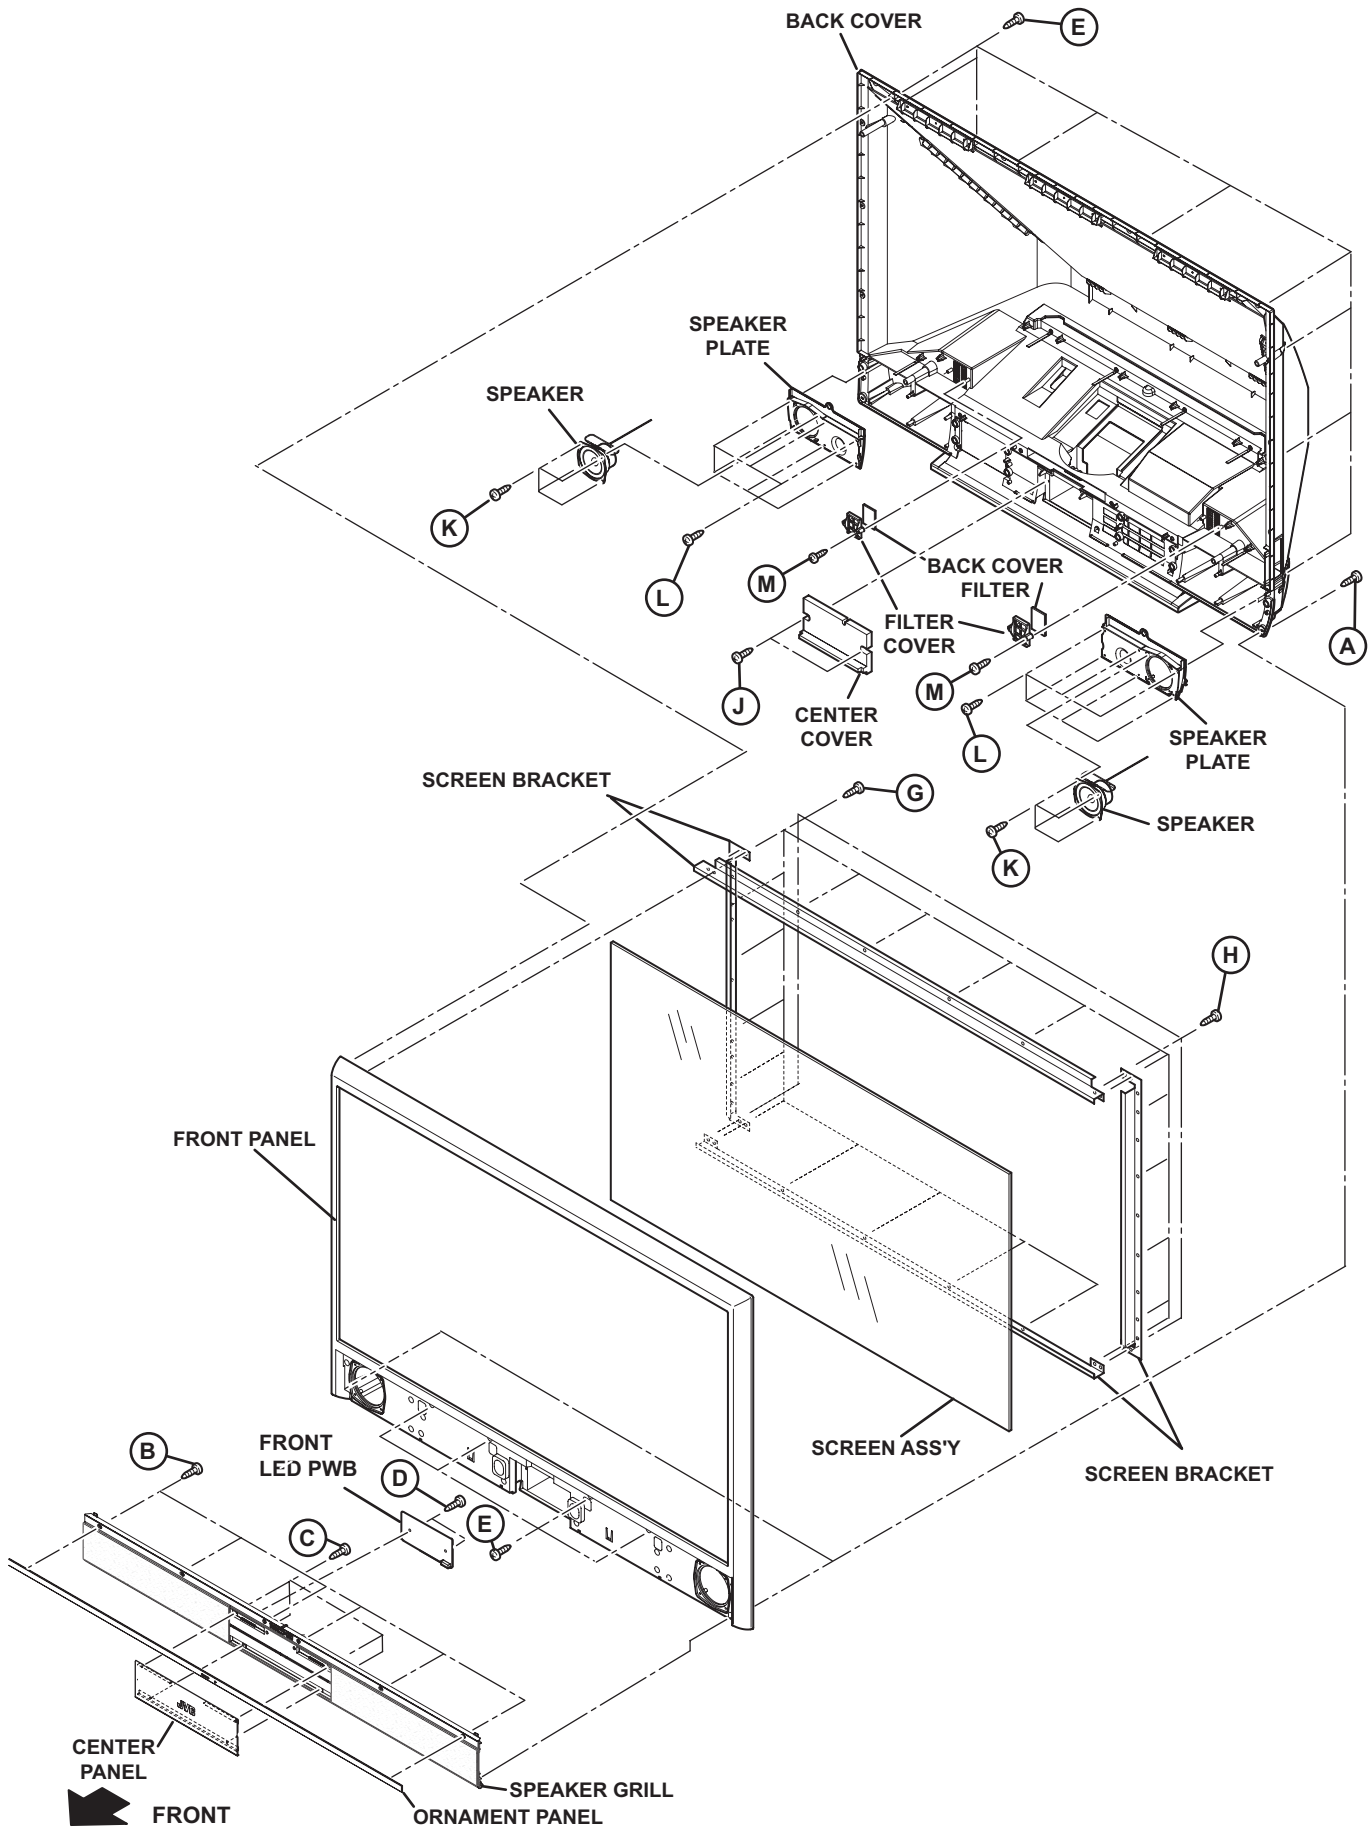

Fig.3
3.1.2.1 REMOVING THE SPEAKER GRILL (Fig.3)
3.1.2.2 REMOVING THE ORNAMENT PANEL (Fig.3)
- (1) Remove the 6 screws [B].
- (2) Remove the ORNAMENT PANEL.
3.1.2.3 REMOVING THE CENTER PANEL (Fig.3)
3.1.2.5 REMOVING THE FRONT PANEL WITH SCREEN ASS'Y (Fig.3)
3.1.2.6 REMOVING THE SCREEN ASS'Y (Fig.3)
3.1.2.7 REMOVING THE CENTER COVER (Fig.3)
- (1) Remove the 2 screws [J].
- (2) Remove the CENTER COVER.
3.1.2.8 REMOVING THE SPEAKER (Fig.3)
3.1.2.9 REMOVING THE SPEAKER PLATE (Fig.3)
- (1) Remove the 6 screws [L].
- (2) Remove the SPEAKER PLATE.
3.1.2.10 REMOVING THE BACK COVER FILTER (Fig.3)